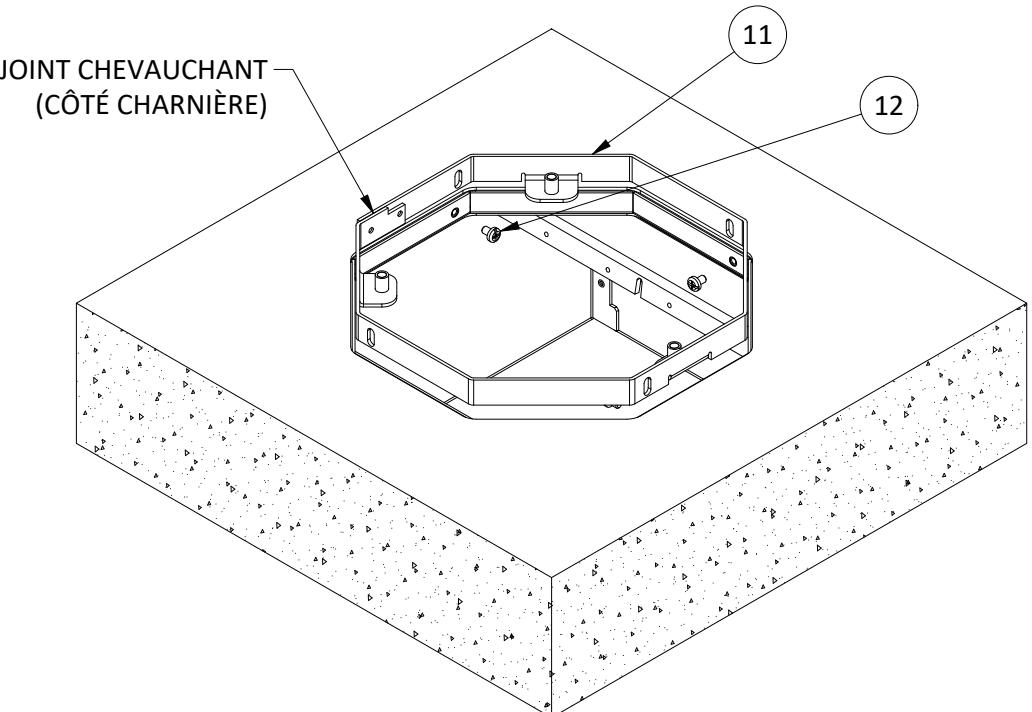

FIGURE 2
#### AFTER CONCRETE POUR, SEE FIGURES 2, 3, AND 4
**APRÈS LA COULÉE DE BÉTON, CONSULTER LES FIGURES 2, 3 ET 4.**